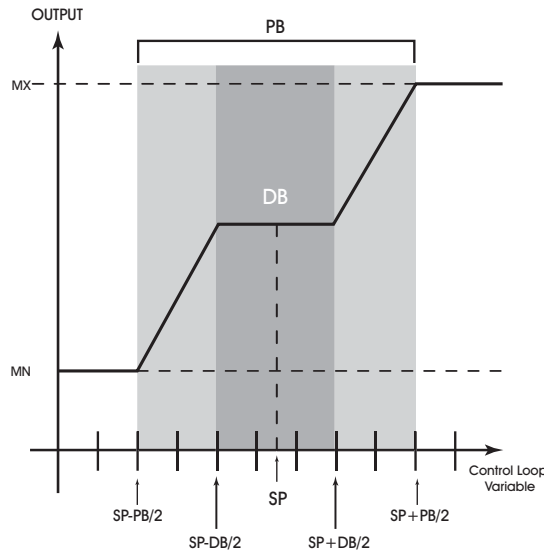
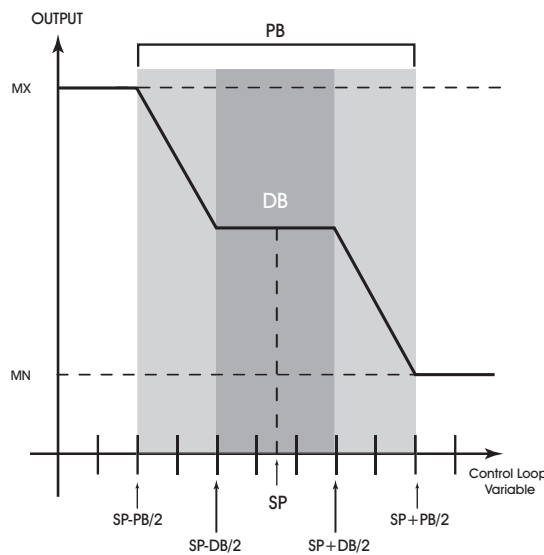

Figure 3-3: Proportional Band For Normal Acting Control ($SG=0$)
Figure 3-4: Proportional Band For Reverse Acting Control ($SG=1$)
To determine **PB**, you must first decide how close the *NB-GPC2* must control the output to the setpoint. For instance, if the setpoint is 72°F., an acceptable control range might be within two degrees of the setpoint. This control range can be expressed as a band centered on the setpoint: from 70° to 74°, or four degrees, the *proportional band* (**PB**). Refer to Figure 3-3 and Figure 3-4.
The **(SG) Control Action** property refers to the control sign of the floating point control loop. The control sign is used to determine whether the control loop is *normal acting* or *reverse acting*. A normal acting control loop causes an increase in output position when the value of the input variable *increases* (see Figure 3-3). A reverse acting control loop causes an increase in output position when the value of the input variable *decreases* (see Figure 3-4).